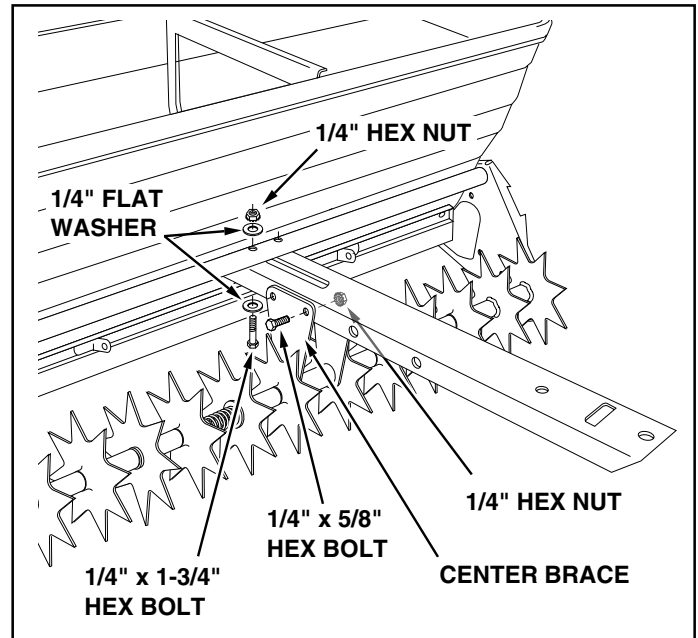

FIGURE 2
3. Attach the tongue to the frame assembly tube using two 1/4" x 1-3/4" hex bolts, four 1/4" flat washers and two 1/4" hex nuts as shown in figure 2. **Do not tighten yet.**
4. Attach the tongue to the two center braces using four 1/4" x 5/8" hex bolts and 1/4" hex nuts as shown in figure 2. **Do not tighten yet.**